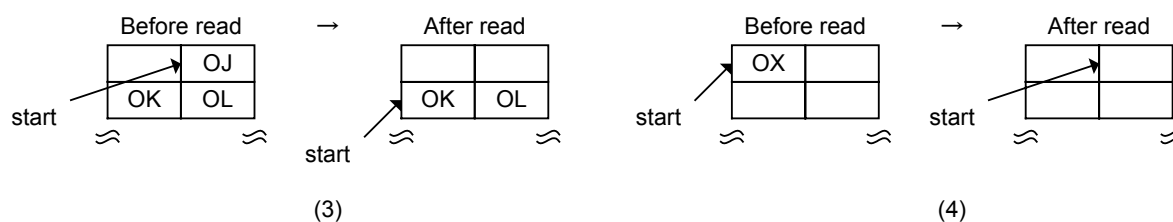

Fig. 6.75 FIFO read processing (operations that require caution)
Shown in (3) of Fig. 6.75 is an operation in which data is read wordwise using the FIFO_Rd_0,1 registers while a byte boundary exists. Indeterminate data is output to the High side, and data J is output to the Low side. The read pointer increments for only 1 byte of data. Shown in (4) of Fig. 6.75 is an operation in which data is read wordwise using the FIFO_Rd_0,1 registers while no byte boundary exists but the remaining bytes of data = 1.